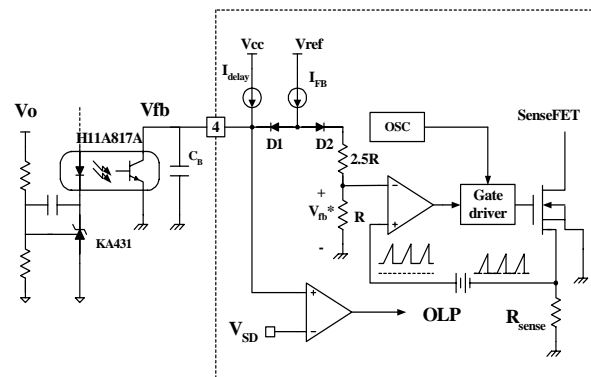

Figure 5. Pulse width modulation (PWM) circuit
2. Feedback Control : FSDM07652RB employs current mode control, as shown in Figure 5. An opto-coupler (such as the H11A817A) and shunt regulator (such as the KA431) are typically used to implement the feedback network. Comparing the feedback voltage with the voltage across the Rsense resistor plus an offset voltage makes it possible to control the switching duty cycle. When the reference pin voltage of the KA431 exceeds the internal reference voltage of 2.5V, the H11A817A LED current increases, thus pulling down the feedback voltage and reducing the duty cycle. This event typically happens when the input voltage is increased or the output load is decreased.
2.1 Pulse-by-pulse current limit: Because current mode control is employed, the peak current through the Sense FET is limited by the inverting input of PWM comparator (V_{fb}^*) as shown in Figure 5. Assuming that the 0.9mA current source flows only through the internal resistor ($2.5R + R = 2.8 \text{ k}\Omega$), the cathode voltage of diode D2 is about 2.5V. Since D1 is blocked when the feedback voltage (V_{fb}) exceeds 2.5V, the maximum voltage of the cathode of D2 is clamped at this voltage, thus clamping V_{fb}^* . Therefore, the peak value of the current through the Sense FET is limited.